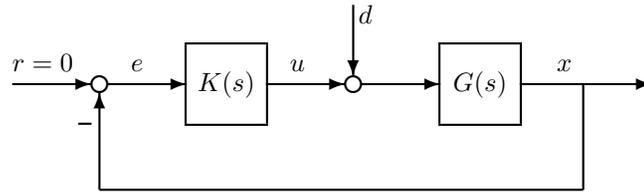

Figure 3: Impeller Control System
The model parameters are for an experimental testbed to study the axial control of levitated impellers. The model is a linearization of a nonlinear model as described in Reference (2). Notice that the dynamics are unstable in the axial direction. The feedback system to stabilize the impeller is shown in Figure 3. The reference command is set to  $r = 0$  and the remainder of the problem will focus on the axial disturbance  $d$ .
- (a) It is important to design a controller that minimizes power consumption. This leads to the following design constraint: If  $d(t) = 1$  (V) for all  $t \geq 0$  then the steady state control input should satisfy  $|u_{ss}| \leq b$ . Convert this into a design specification on one of the closed-loop transfer functions. Next, translate this into a design specification on the loop transfer function  $L(s) = G(s)K(s)$ .